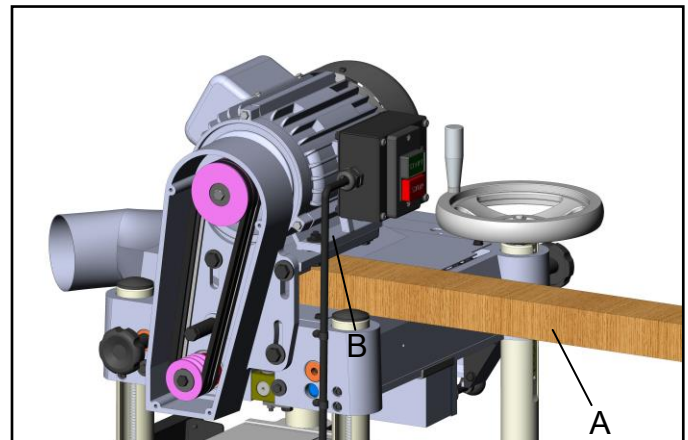

Fig. 14
3. Place a board (A) underneath the motor base (B, Fig. 14)